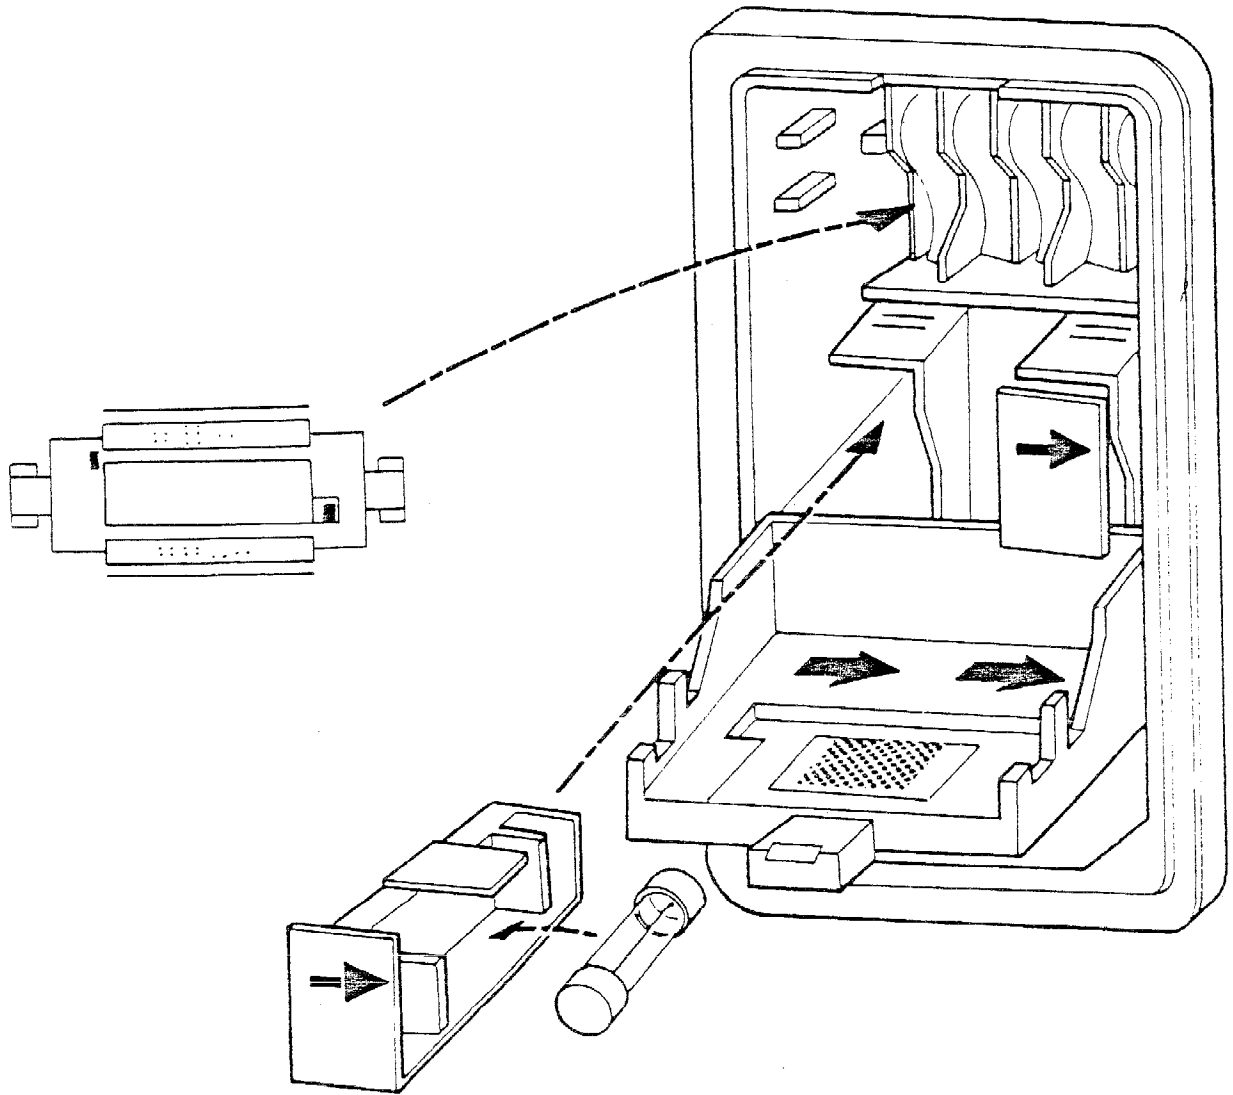

Fig 2.1 Mains Input Unit
A mains input unit (illustrated in Fig 2.1) is located on the rear panel of the instrument. The selector setting should be set as listed in Table 2.1.
3. Lever open the hinged flap of the mains input unit (See Fig 2.1).